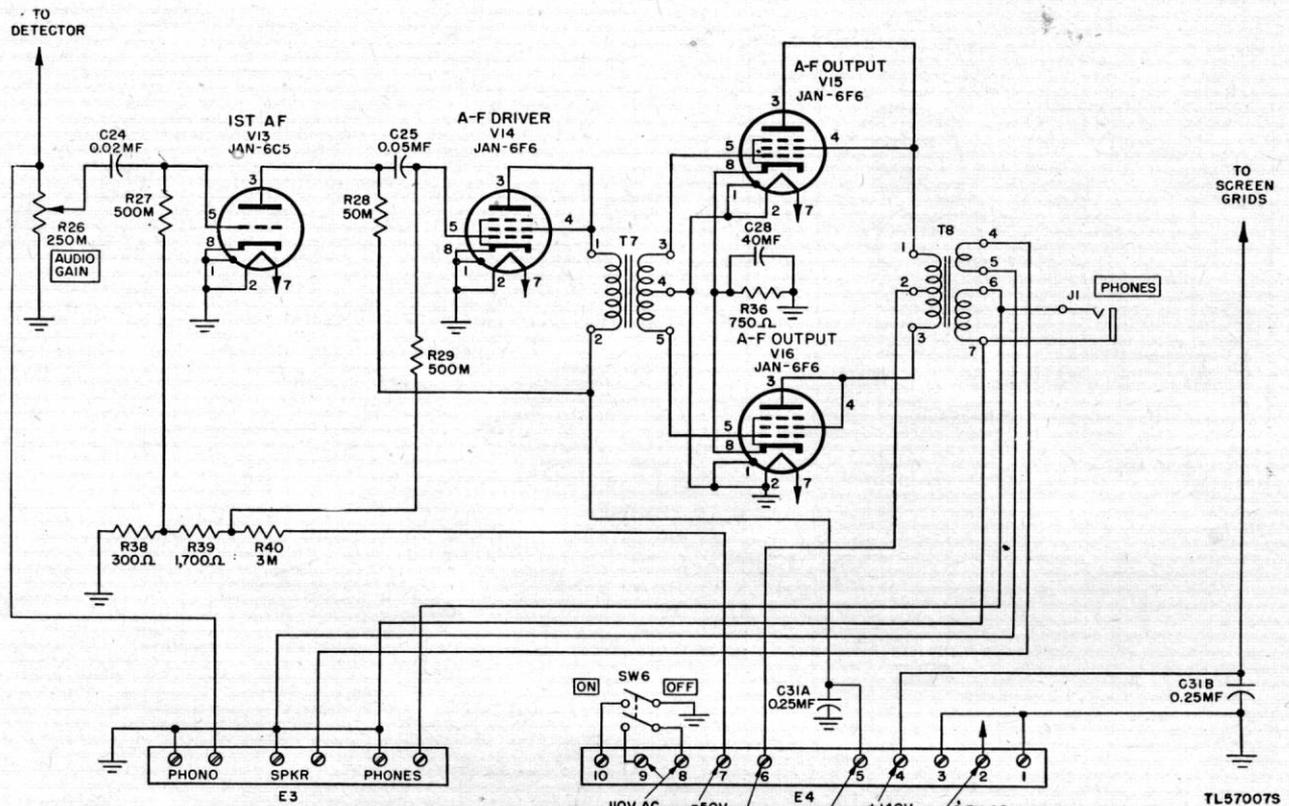

Figure 33. Radio Receiver BC-779-B, functional diagram of a-f amplifier stage.
a. The signal voltages across the untuned secondary of i-f output transformer L32 are applied to diode detector Tube JAN-6H6 (V8). The two diode sections are connected in parallel and the tube acts as a half-wave rectifier. The diode load is composed of 100,000-ohm resistor R48, 75,000-ohm resistor R24, 50,000-ohm resistor R25, and 250,000-ohm resistor R30 in series between L32 (point A) and the cathode of V8 (point C). The entire load resistance is bypassed by 50-mmf capacitor C44 which acts as an r-f filter. Two additional 50-mmf capacitors, C45 and C26, also provide r-f filtering. The rectified diode current passes through the load resistance, and the load voltage variations are a function of the modulation of an incoming signal. The voltage across R25 is taken as output voltage and applied to 250,000-ohm AUDIO GAIN potentiometer R26 (fig. 33).
## 67. A-F Amplifier (fig. 33)
a. An input transformer, T1, T2, or T3, is connected to the power source by 7-foot line cord W1 and is fused by 2-ampere (amp), 250-v fuse F1. Terminals 8 and 9 of terminal strip E1 are connected to terminals 8 and 9 of receiver terminal strip, E4 (fig. 33) by the connector cable. Closing receiver ON-OFF switch SW6 therefore completes the primary circuit of the transformer. The average power consumed is 180 watts.